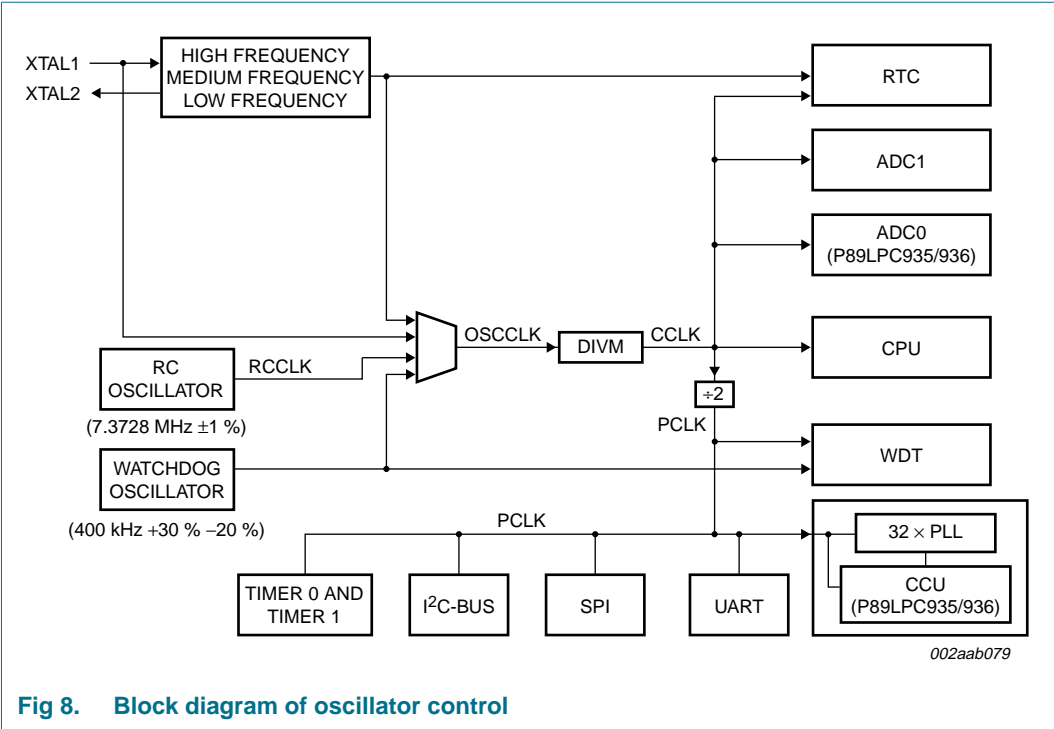

Fig 8. Block diagram of oscillator control
**OSCCLK** — Input to the DIVM clock divider. OSCCLK is selected from one of four clock sources (see Figure 8) and can also be optionally divided to a slower frequency (see Section 8.8 “CCLK modification: DIVM register”).